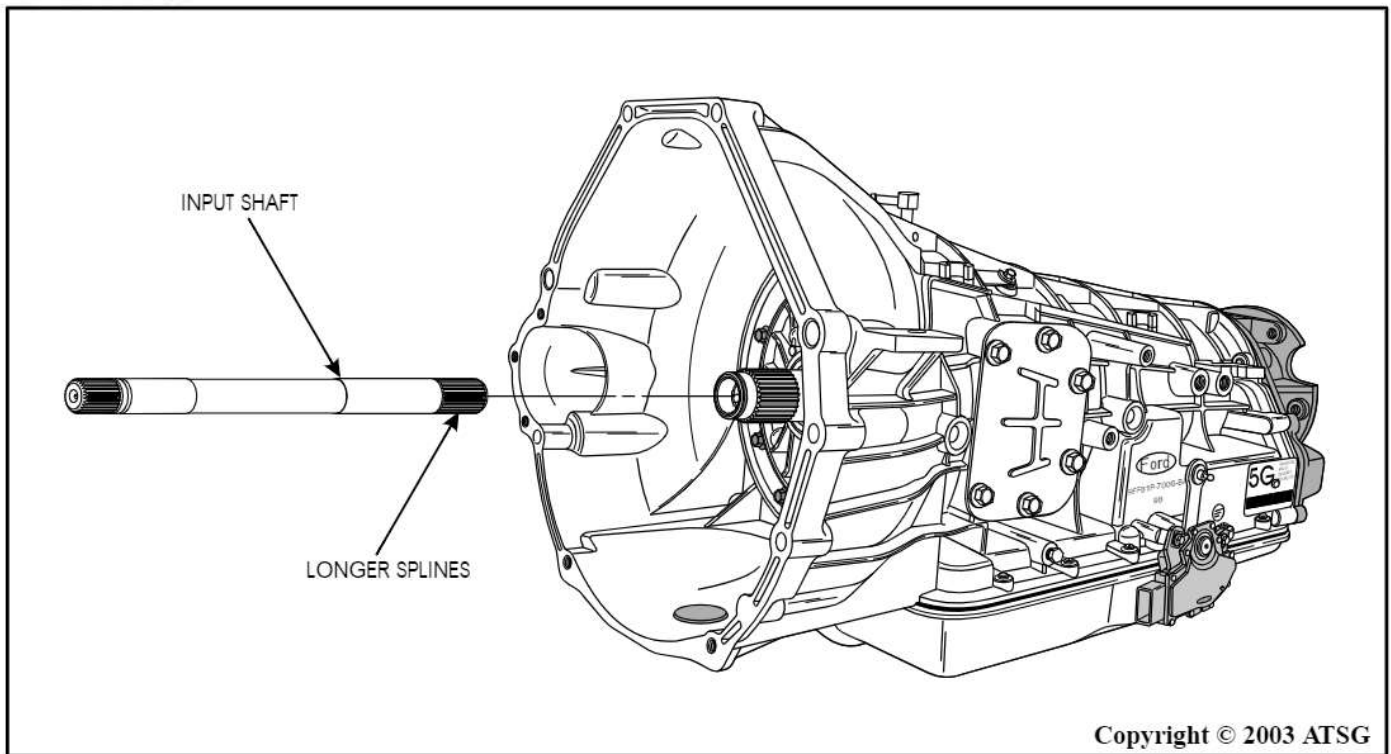

Figure 203
8. Remove the transmission from bench fixture and set on flat work surface (See Figure 203).
9. Install the input shaft, as shown in Figure 203, with the long spline end going in first.